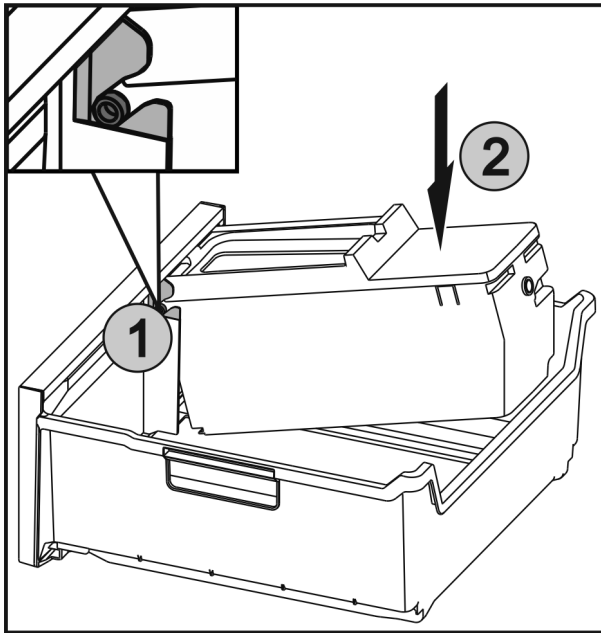

Fig. 50
- Push the axles Fig. 50 (1) on the EasyTwist-Ice into the guides and push the rear side Fig. 50 (2) until the lugs engage.